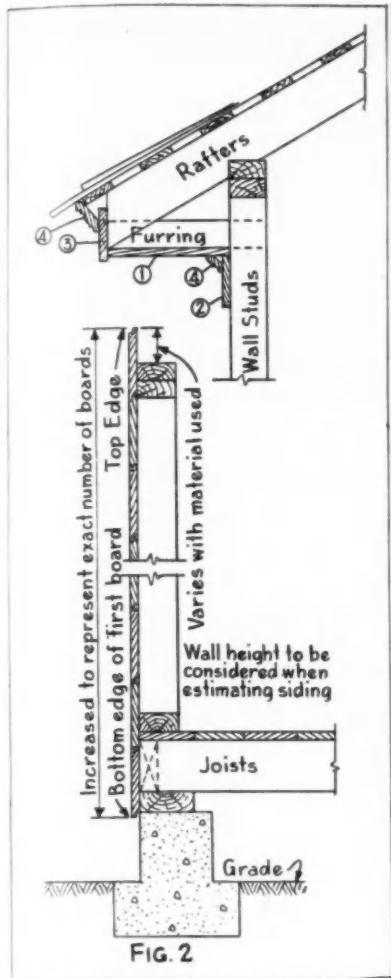

FIG. 2
**Rule 1:** Divide the wall height by the amount one board covers (see figure 2). Result equals number of boards. Count a part of a board as a whole one. The length of the stock is the same as the length of the wall which must be considered in even foot lengths. Repeat for each wall.
**To Find Wall Area:** The wall height is found by measuring from the lower edge of the bottom board of siding to the top edge of the top board. In other words, add to the wall height measurement from the underside of the mudsill to the top of the doubling plate the amount of stock which would be wasted off the top board. (See figure 2.) The perimeter of the building equals the total wall length. Increased wall height times perimeter equals wall area.